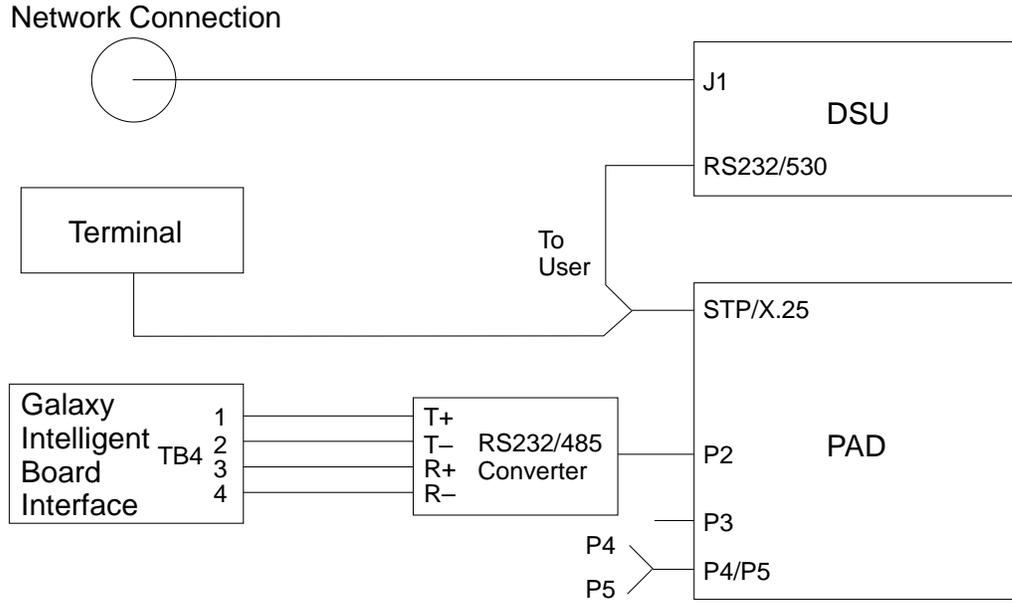

Figure D-1: Controller/X.25 Connection Block Diagram
Figure D-1 shows a block diagram of the X.25 connection. The asynchronous connection is accomplished through an RS-232/485 converter to the controller. The synchronous connection to the X.25 network may be user configured as either a permanent virtual circuit (PVC) or as a switched virtual circuit (SVC). Contact your network administrator to determine which type of connection will be provided.
1. Connect the Y-cable labeled “To User” to the connector labeled “STP/X.25” on the back of the PAD unit (see Figure D-1).